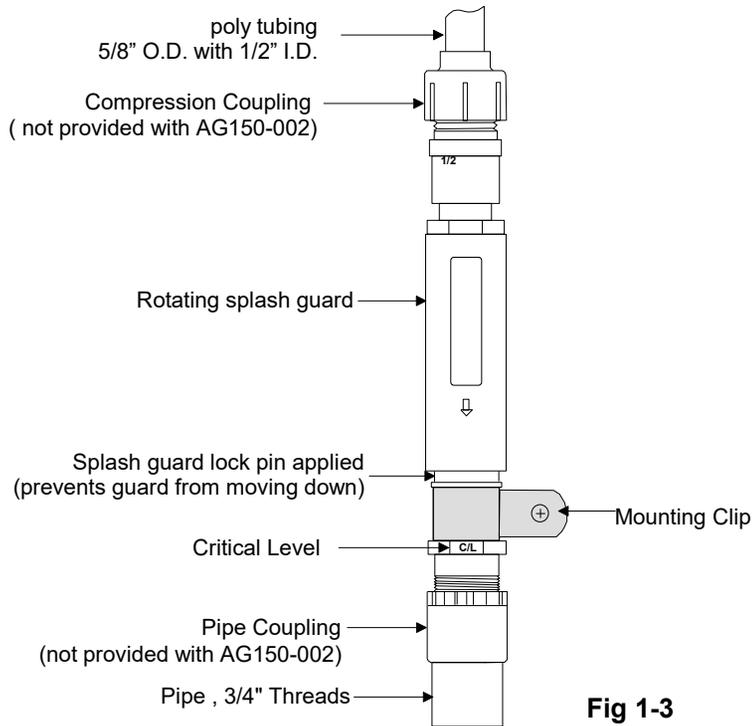

Fig 1-3
3. Typical AG150-002 application. (See Fig.1-3)